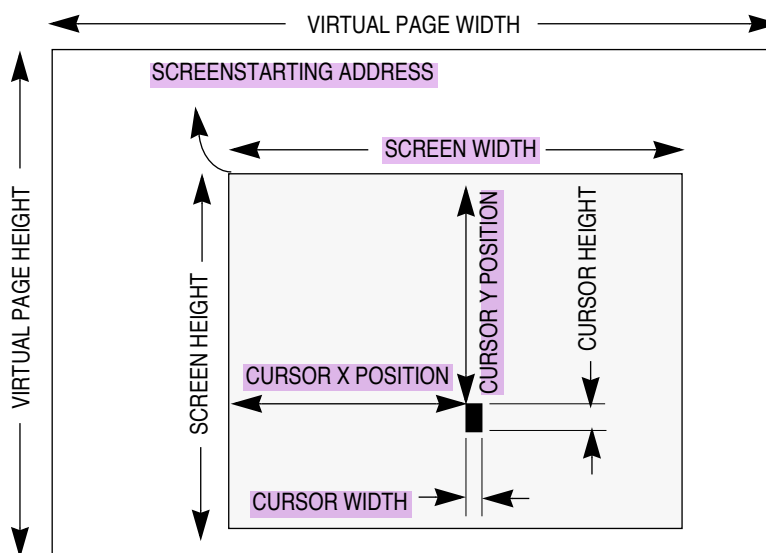

Figure 12-3. LCD Screen Format
12.1.2.1 FORMAT OF THE LCD SCREEN. The screen width and height of the LCD panel are software programmable. Figure 12-3 illustrates the relationship between the portion of a large graphics file displayed on the screen versus the actual page. The units in the figure are measured in pixel counts.
The LCD screen width (LXMAX) and LCD screen height (LYMAX) registers are where you specify the size of the LCD panel. The LCD controller will start scanning the display memory at the location pointed to by the LCD screen starting address (LSSA) register. Therefore, the shaded area in Figure 12-3 will be displayed on the LCD panel.